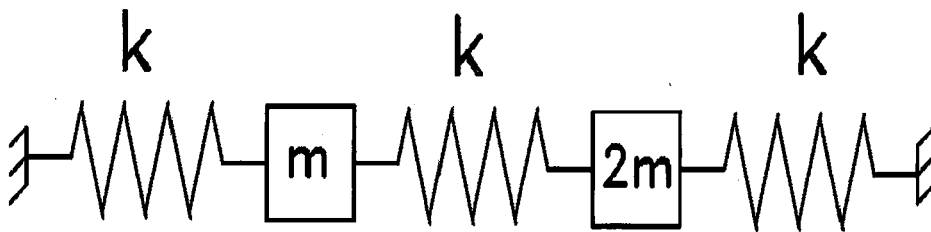

Fig Q3
3) Fig Q3 shows a 2 dof system. Deduce its equation of motion. Obtain its natural frequencies and mode shapes. Plot the mode shapes.